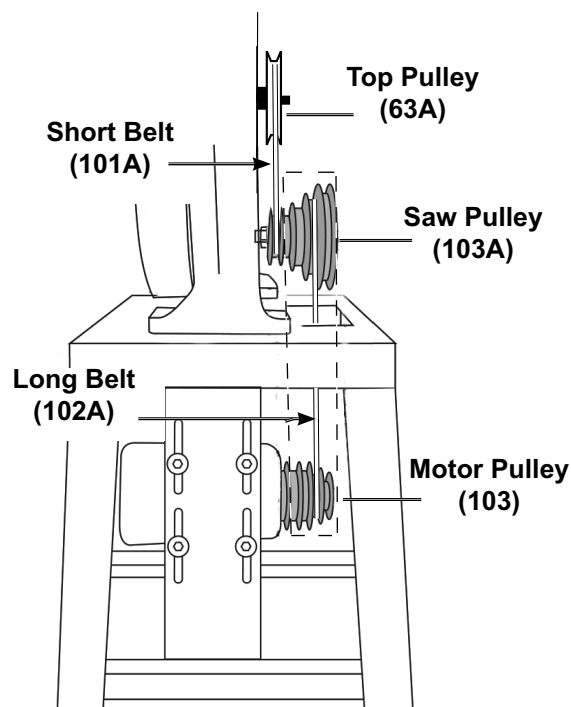

Figure 11
3. Line the Motor Pulley up with the hole in the table top. When the Bandsaw housing is attached, you will line up the Saw Pulley with the Motor Pulley below it, as seen in Figure 11.
4. Line up the Pulleys using Figure 11 as a guide: